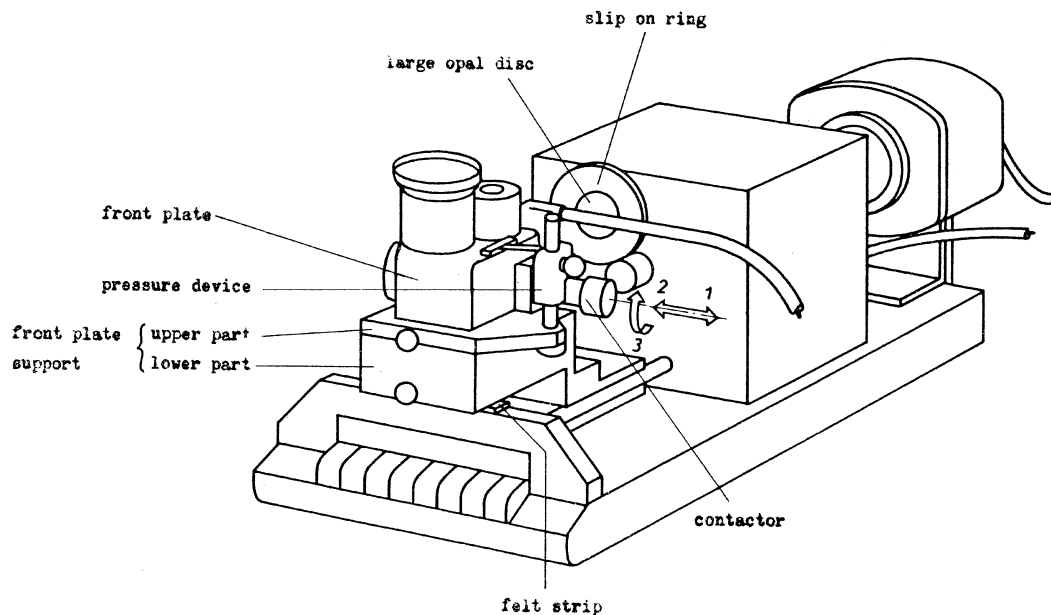

Fig. 130.1
Place the front plate support of the test lamp on the felt strip above the push buttons (see Fig. 130.1).
Pull the contactor in the direction of the arrow. Place the front plate on its support and clamp by depressing the pressure device. Insert the contactor in the direction of the arrow (2) and lock (3). Push the slip-on ring on to the large opal disc (see Fig. 130.1).